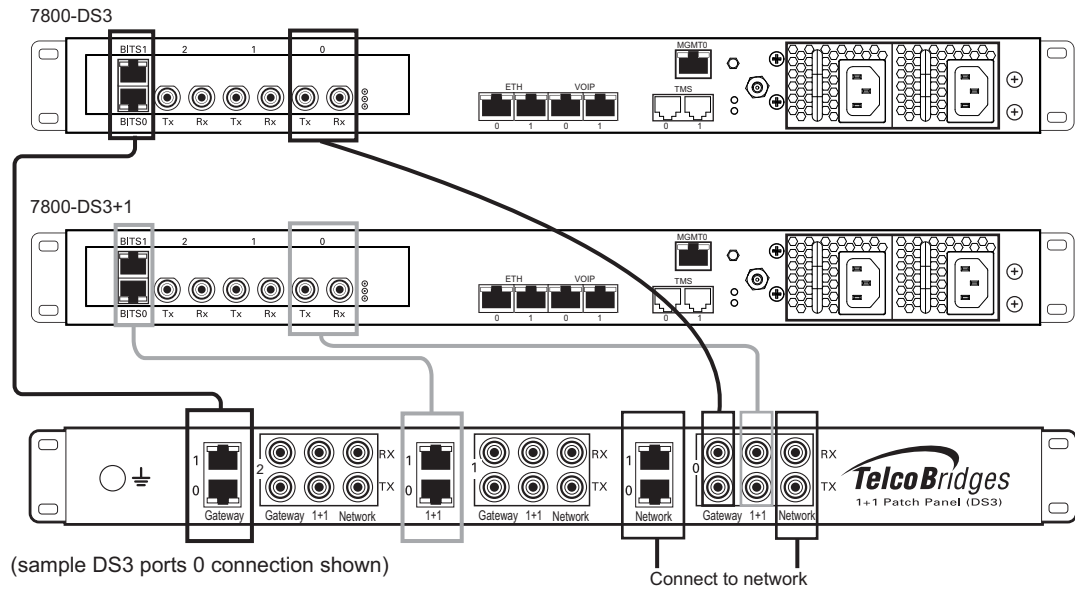

Figure 4.6 7800-DS3 and 7800-DS3+1 connecting to the TDM 1+1 DS3 1+1 patch panel
1. Connect each DS3 line from the network section of the 1+1 patch panel to the remote equipment. See figure 4.6 on page 32.